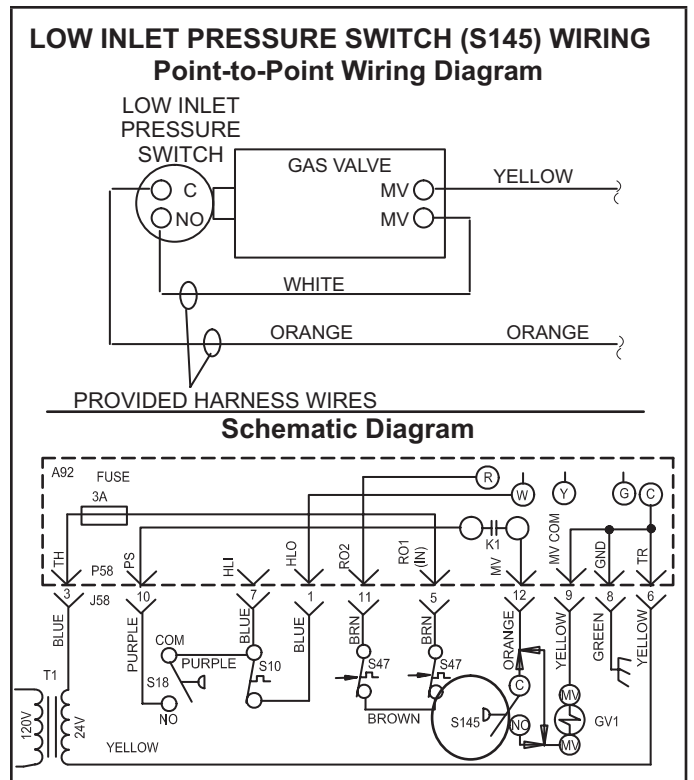

FIGURE 7
- 10 - Thread pressure switch (S145) to fitting 2 to 3 turns past hand tight, then wire as shown in figure 7.